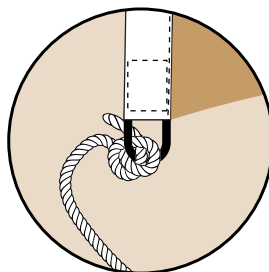

Fig 11,
12. Ensure flag is the correct way up, tie an end of the halyard to each of the D-rings on the flag. (See Fig 11)